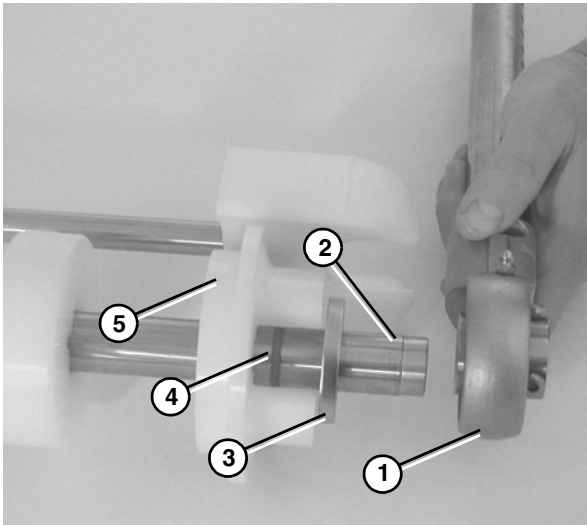

Figure 60
- Slide the bearing shaft assembly (**Figure 60, item 1**) washer off (**Figure 60, item 3**), O-ring (**Figure 60, item 4**), and flanged puck (**Figure 60, item 5**) off the idler shaft (**Figure 60, item 2**).